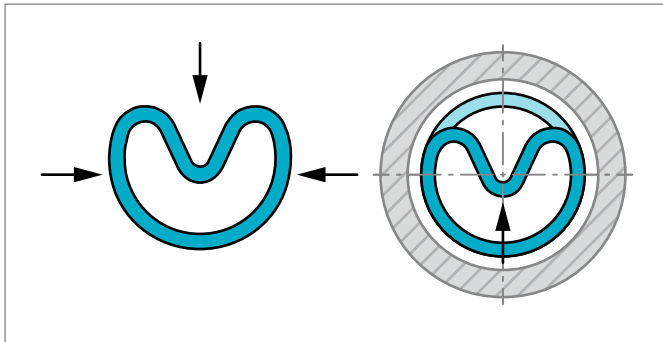

Figure 179: Place the Excluder® in compressed form into the groove behind the O-Ring and push Excluder® ring in the direction of the arrow
- 2) The Excluder® ring is compressed into a kidney-shape and placed in the groove, see Figure 179.